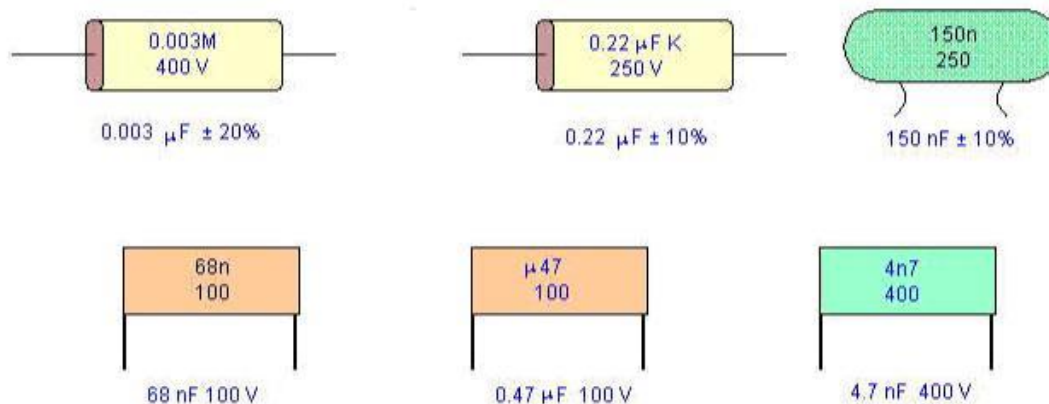

Figure 1: Plastic Film Types
- **Capacitor Identification Codes:** There are no international agreements in place to standardize capacitor identification. Most plastic film types (Figure1) have printed values and are normally in microfarads or if the symbol is n, Nanofarads. Working voltage is easily identified. Tolerances are upper case letters: M = 20%, K = 10%, J = 5%, H = 2.5% and F = ± 1 pF.